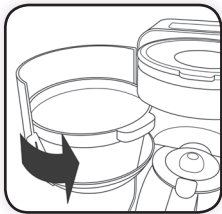

Figure 16
- 8 Close the Front Loading Brew Basket door. (Figure 16)